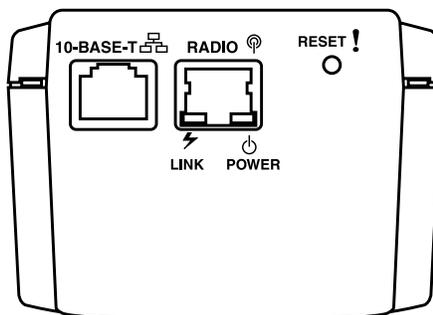

Figure 3-7. Indoor unit top panel.
3. Connect the Indoor-to-Outdoor cable to the Radio connector, which is located on the top panel of the indoor unit. (See Figure 3-7.) The Indoor-to-Outdoor cable should be connected to the unit before the unit is connected to the mains power.
To verify proper operation, check the LED indicators located on the top panel of the indoor unit as shown in Figure 3-7 and as described in Table 3-2.